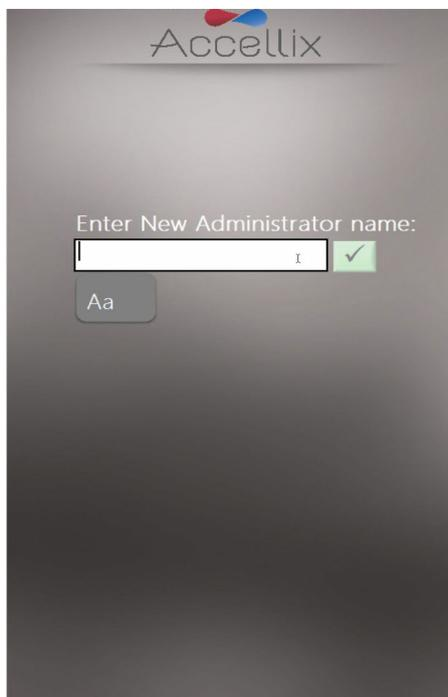

Figure 9: Add User screen
Add 	Add user (see Figure 9)
1. Tap the **Add** icon . The **Add User** screen (Figure 9) is displayed: